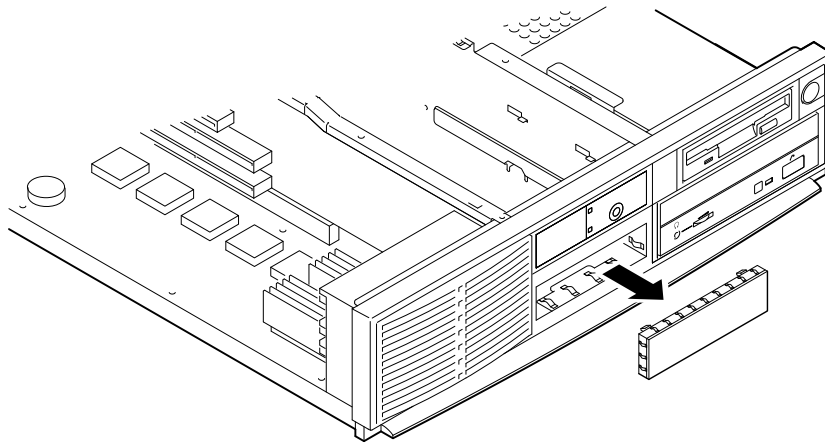

Figure 4-12 Removing Blank Panel
3. If you are installing a removable media drive in the lower position of the drive bracket, gently push the front-panel filler plate from the rear in front of the tape drive position, as Figure 4-12 shows.